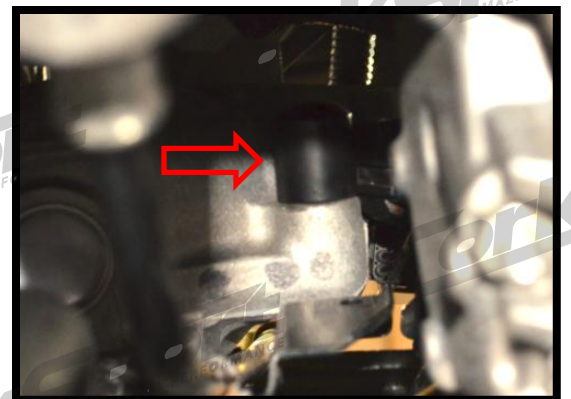

Figure 2e
- f) Attach the manifold plug and one of the supplied clamps on the intake manifold port where the hose was removed in step 2b. (**Figure 2e**) Tighten the clamp.
- f) Attach the manifold plug and one of the supplied clamps on the intake manifold port where the hose was removed in step 2b (**Figure 2e**) and tighten the clamp.